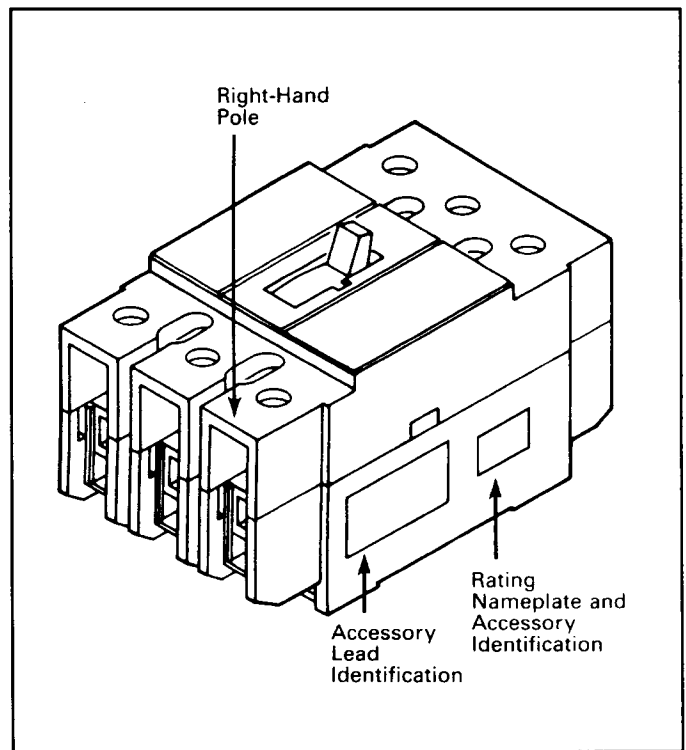

Fig. 2-4 Preferred Mounting Locations for accessory Nameplate Labels
- 2-8. Place labels supplied with kit on circuit breaker. (See Fig. 2-4.)